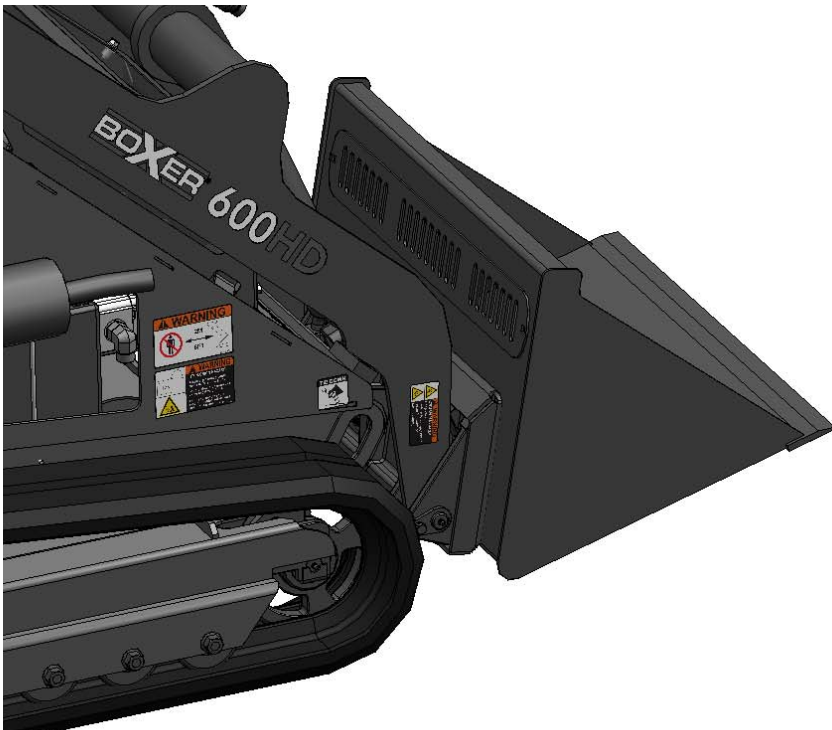

Figure 3-27 Non-powered Attachment Installation
3. Slowly drive towards the attachment and align the top edge of the male mounting plate (Figure 3-27) and the upper lip of the female attachment mounting plate (Figure 3-27). Slide the upper edge of the male mounting plate into the upper lip of the female attachment mounting plate.